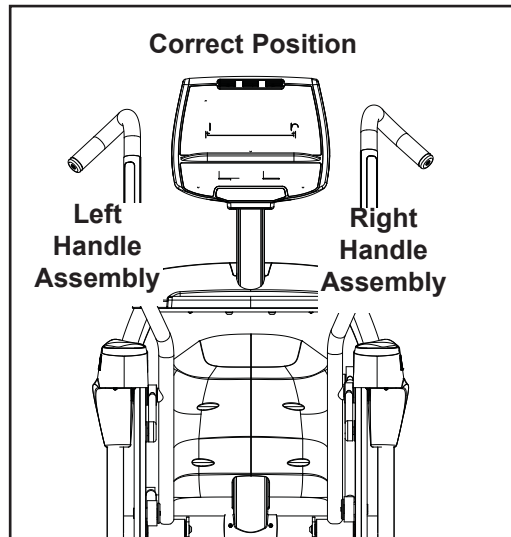

Figure 12 (750AT)
- H. Verify handle assemblies are now installed in the correct position as shown in Figure 12.